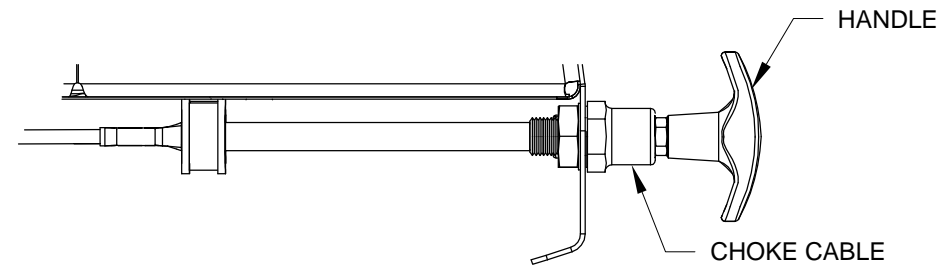

FIGURE 1:
Step 1: Move the Choke Cable handle all the way forward to the off position as shown in Figure 1.
Step 7: Seal the cable penetration grommet (see Page 50-04, Figure 1) and the firewall wire penetration grommet (see Page 45-04, Figure 1) with Firewall Sealant. Firewall Sealant not provided in kit. Firewall Sealant is available from Van's Aircraft.